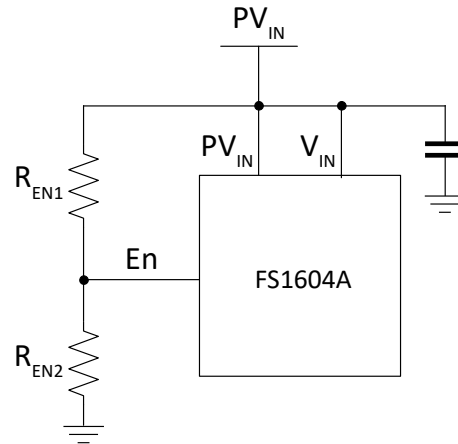
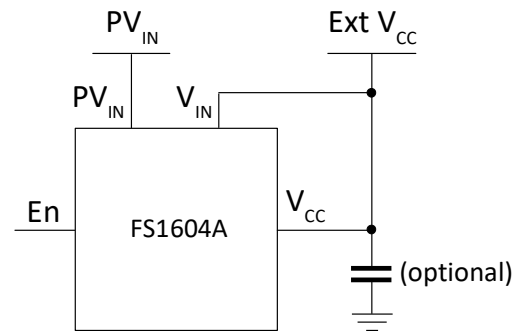

Figure 6 Single supply configuration: internal LDO regulator, adjustable PV_{IN_}UVLO
Figure 7 Using an external bias voltage
The FS1604A has an integrated Low Drop-Out (LDO) regulator, providing the DC bias voltage for the internal circuitry. The typical LDO regulator output voltage is 5.2V. For internally biased single-rail operation, the V_{IN} pin should be connected to the PV_{IN} pin (Figure 6). If an external bias voltage is used, the V_{IN} pin should be connected to the V_{CC} pin to bypass the internal LDO regulator (Figure 7).
- It can be used to implement a precise input voltage UVLO. The input of the En pin is derived from the PV_{IN} voltage by a set of resistive dividers, R_{EN1} and R_{EN2} (Figure 6). Users can program the UVLO threshold voltage by selecting different ratios. This is a useful feature that stops the FS1604A regulating when PV_{IN} is lower than the desired voltage.